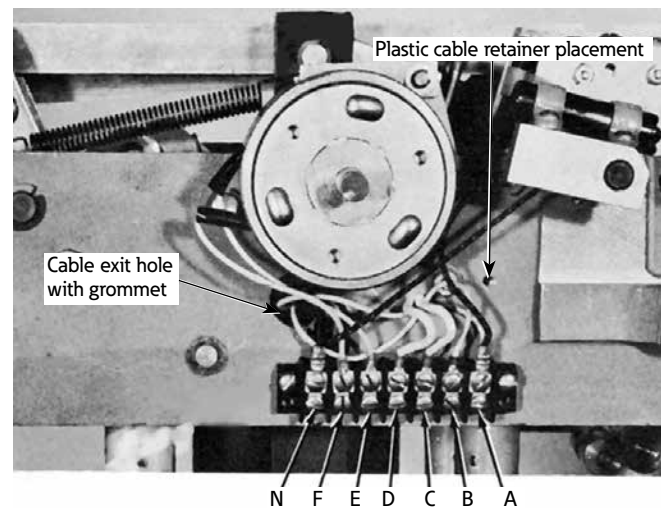

Figure 4. Terminal block and lower terminal identification.
1. Disconnect wires at terminals A, C, D, F, and N on the lower row of terminals (Figure 4).
2. Disconnect plastic cable retainer and discard (Figure 4). Save hardware.
- Route switch SW2 cable along frame wall and pull it through the cable exit hole to terminal block (Figures 4 and 10). Do not attach cable leads to terminal block at this time.